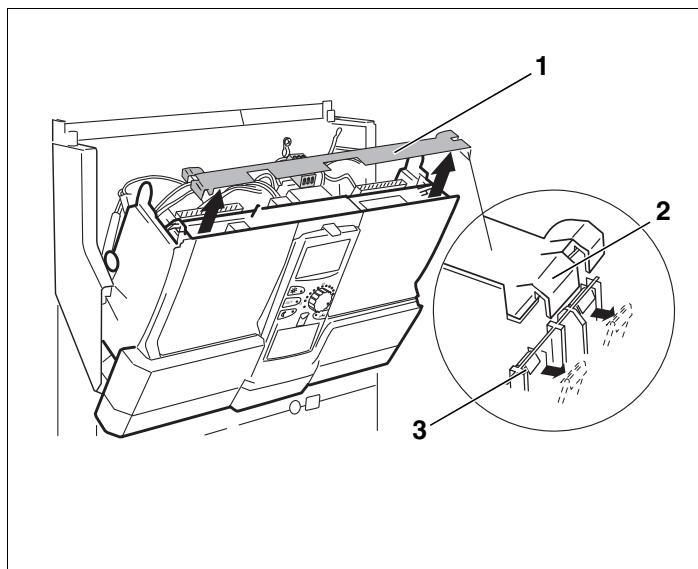

Fig 4 Removing the cross brace
You will need a screwdriver to remove the crossbar (→ Fig. 4, [1]).
- Undo the crossbar on one side. For this push one of the two clips (→ Fig. 4, [3]) outwards with the screwdriver.
- Lift the crossbar on one tab (→ Fig. 4, [2]).
- Remove crossbar (→ Fig. 4, [1]).